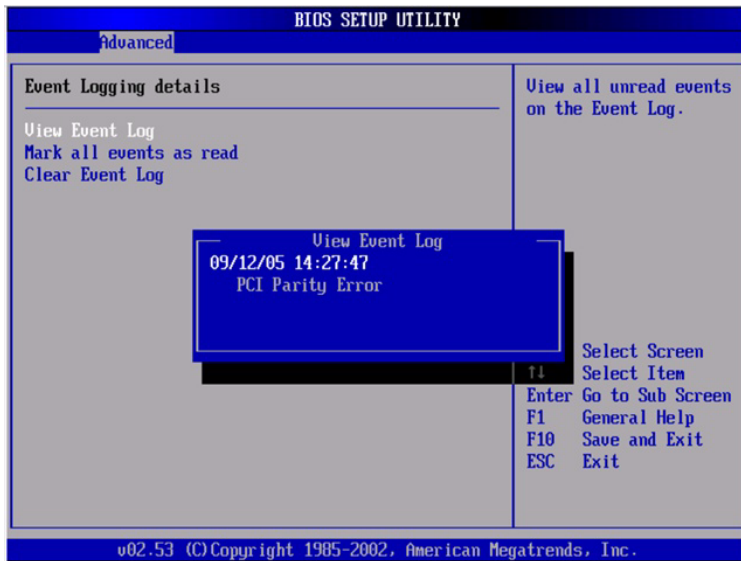

FIGURE E-4 Sample DMI Log Screen, PCI Parity Error
- FIGURE E-4 shows an example of a DMI log screen from BIOS Setup Page, with a parity error.